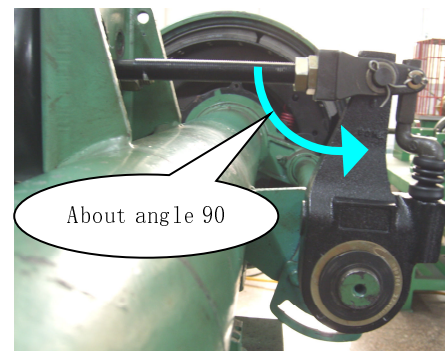

Fig 4
7. Apply the brake with 0.55-0.7Mpa (80-90psi) air pressure, Perform a few brake application, the brake clearance will be adjusted to normal scope. The angle between arm body and push rod is about 90 degree. (AS Fig4).